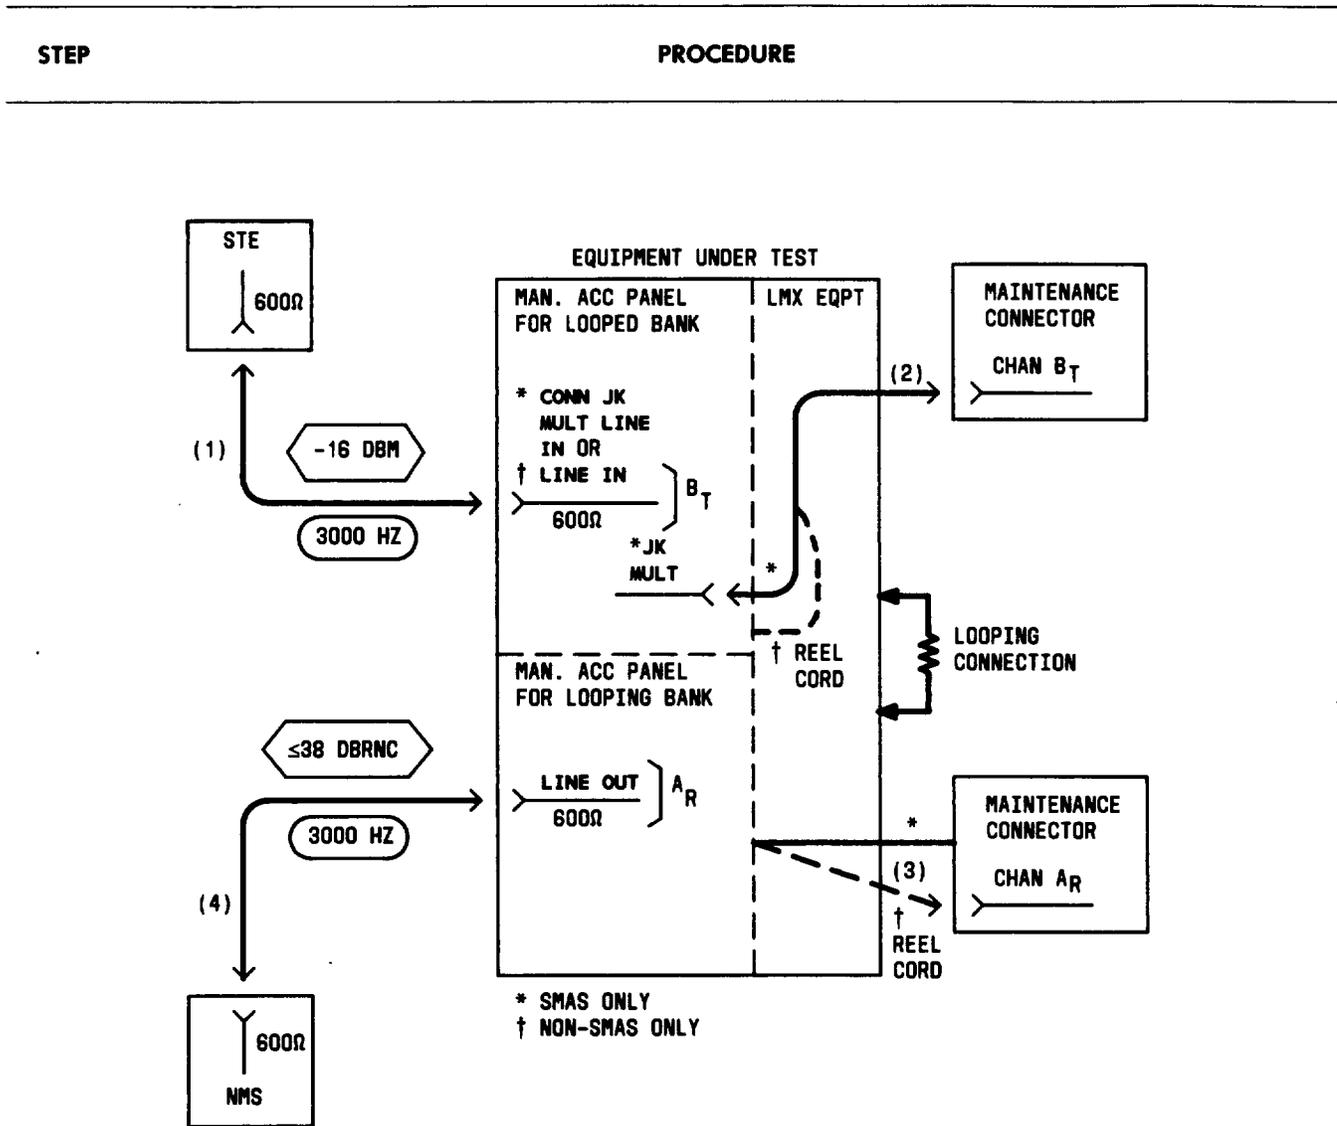

Fig. 15—Patching Diagram—Crosstalk Test—Equal-Level Looping—Lower Adjacent Channel (3000 Hz)
- 15a* Connect the JK MULT connector (on the 22AR or AT MAP) to the CHAN BANK connector (on the maintenance connector) for the *looped* channel designated Br for Test A in Table F [patch (2), Fig. 15].
- 15b† On the adjacent non-SMAS J98626() frame, connect the retractable cord (on the 22AU MAP) to the CHAN BANK connector (on the maintenance connector on the frame under test) for the *looped* channel designated B_T for Test A in Table F [patch (2), Fig. 15].
- 16b† Connect the retractable cord (on the 22AU MAP) to the CHAN BANK connector for the *looping*-channel position designated A_R for Test A in Table F [patch (3), Fig. 15].
18	Connect the NMS to the LINE OUT jack [patch (4), Fig. 15].
22	Remove patch (2), Fig. 15 [and patch (3), if used] from the maintenance connector(s).